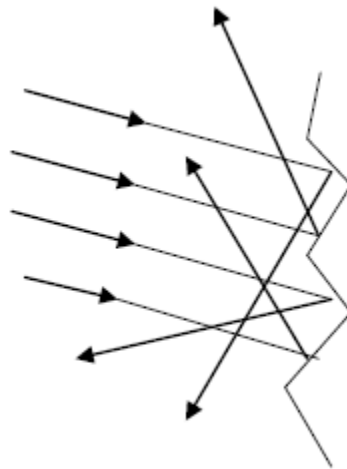

FIG. 2-1
- A. Diffuse reflections occur when light reflects off of rough surfaces (FIG.2-1). These surfaces reflect light in random patterns because each surface acts as a reflector. Each time light interacts, the law of reflection is observed. When laser light interacts with diffuse reflectors, it is scattered greatly and loses its intensity.